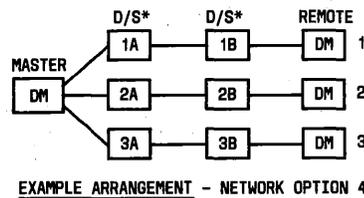

Fig. 6—DMS Fault Codes and Examples of Data Set Positions in Typical Equipment Arrangements
**4.11** A single alphabet character (A thru N) is lighted at the FLT display to indicate a synchronous line failure in the system. These failures are out of sync (OOS), carrier fail (CF) conditions in either direction of transmission of any of the three synchronous links, or an equalizer mode which affects signal quality (SQ) in either direction of transmission on synchronous line 1, 2, or 3. Figure 6 defines the various fault codes.